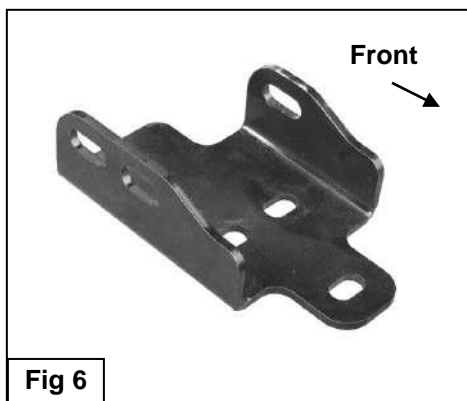

Fig 6
2. Select (1) Frame Bracket, (**Figure 6**). Insert the Bracket through the opening in the plastic bumper, (**Figure 5**). Line up the (3) holes in the Bracket with the holes in the end of the frame.